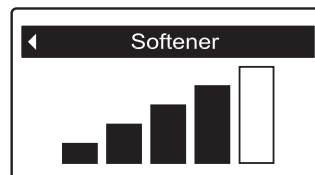

FIG. 101
Begin by checking the signal strength between the softener and the remote. If the signal is weak (2 bars or less on the display shown in Figure 101), move the remote to a different location to try improving the signal strength.
4. Press the SELECT (O) button, and the screen shown in Figure 101 will appear. The more bars that are filled in black, the stronger the signal. The signal strength display updates every 15 seconds.